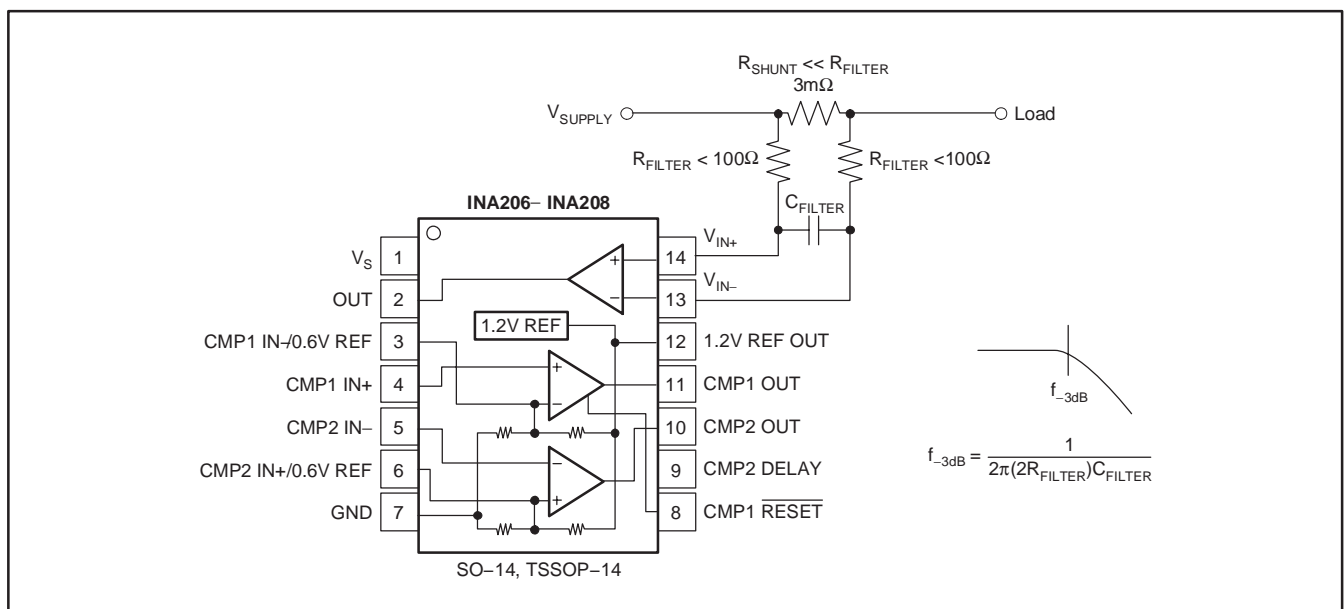

Figure 5. Input Filter (Gain Error – 1.5% to –2.2%)
An obvious and straightforward location for filtering is at the output of the INA206, INA207, and INA208 series; however, this location negates the advantage of the low output impedance of the internal buffer. The only other option for filtering is at the input pins of the INA206, INA207, and INA208, which is complicated by the internal 5kΩ + 30% input impedance; this is shown in Figure 5. Using the lowest possible resistor values minimizes both the initial shift in gain and effects of tolerance. The effect on initial gain is given by Equation (3):